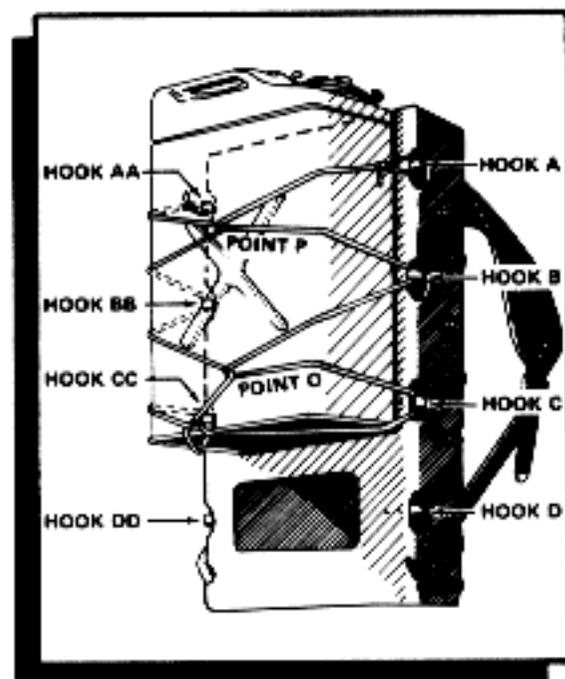

Figure 4-44. Rope lashing method using six hooks.
**Six-hook method.** Another method of lashing loads, using six hooks, is shown in figure 4-44.